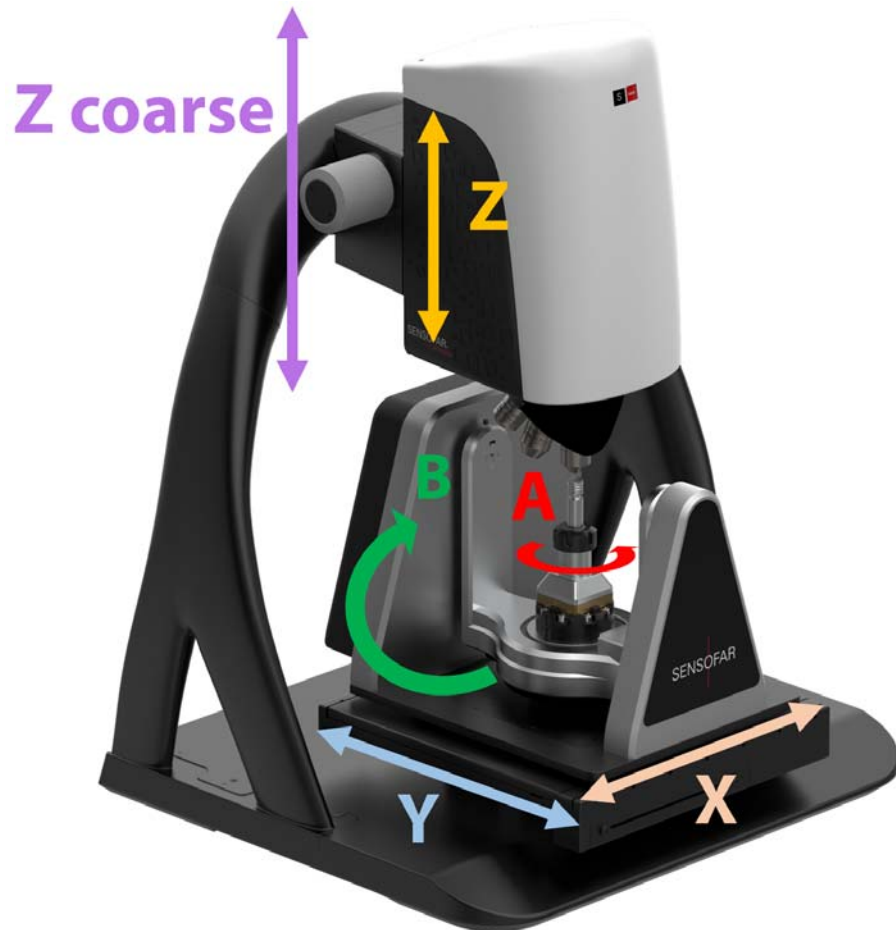

Figure 3.3 Scheme of the different axes. X, Y, Z are the Cartesian axes, while A is the rotation axis and B the elevation axis
Rotation axis (A) rotates 360° limitlessly. The rotation is performed around the axis going through the center of a cylindrical sample. The rotation axis can be tilted by the elevation (B) motor. Elevation rotates around the Y-axis. In the Figure 3.3, B is positioned at 90°.